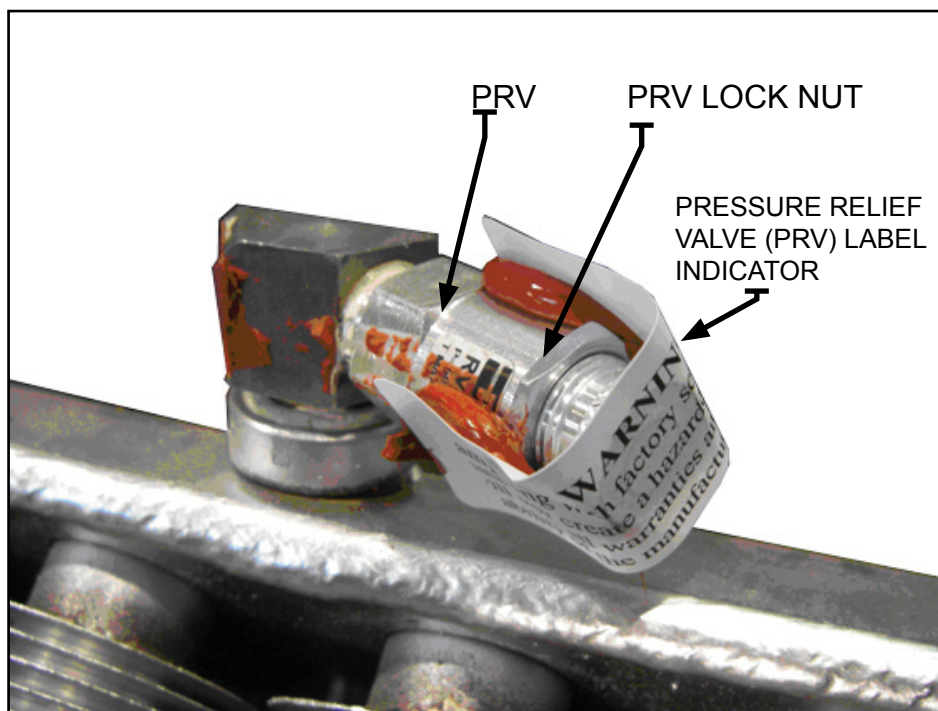

FIGURE 1
|          | <input type="checkbox"/> Louvers      |          | leakage. See Figure 1 and refer to the                            |
10. Do not tamper or remove warning label indicator on the PRV (figure 1).